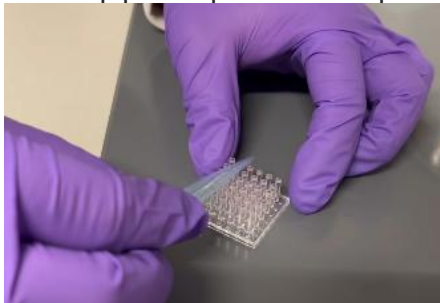

Figure 3. Scraping excess cell-alginate-Matrigel mixture from the pillars using a 1 mL pipette tip.
17. After loading the cell-alginate-Matrigel mixture on all pillars, remove excess cell-alginate-Matrigel by horizontally sliding a 1 mL pipette tip across the pillar surfaces (Fig. 3).